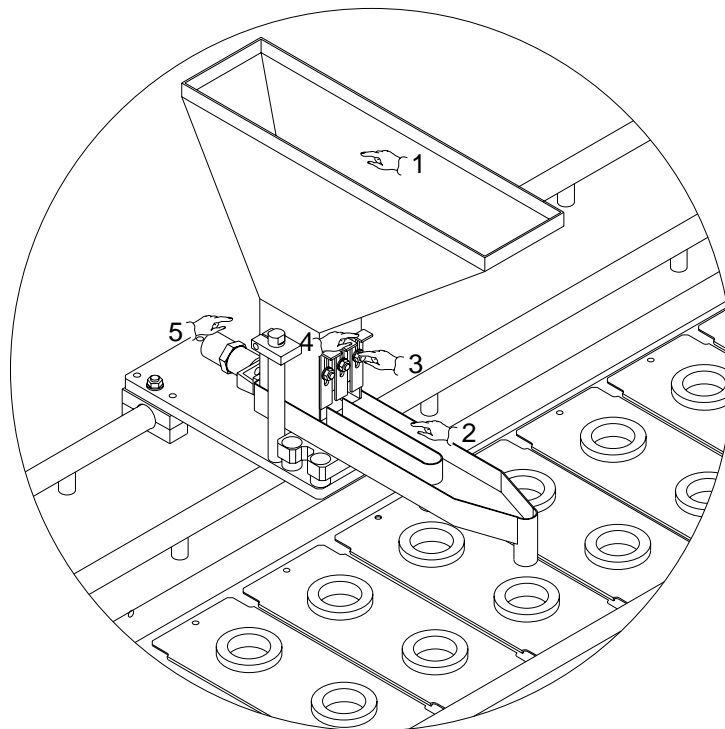

Fig. 6.20
This device, which is mounted on the structure, is used to spread nut granules, chocolate flakes or similar onto the product. The unit consists of a hopper (*Pos. 1, Fig. 6.20*) connected to distribution channels (*Pos. 2, Fig. 6.20*) along which the product flows due to the effect of the vibration induced by a vibrator.
- slacken screws (*Part. 3, Fig. 6.20*) using the wrench and move the adjustable baffles (*Part.*
4 Fig. 6.20), lifting them to increase granule feed or lowering them to reduce feed.
At the end of the adjustment, tighten screws (*Pos. 3, Fig. 6.20*) using the wrench; rotate the pressure regulator (*Part. 5 Fig. 6.20*) clockwise to increase the working pressure of the vibrator in proportion to the quantity of granules fed, or anticlockwise to reduce it.
If any component malfunctions, press the emergency stop buttons (*Part. 1/2, Fig. 6.20*) to disable all the machine's electrical functions.
Part. 1, Fig. 6.20) anticlockwise and release it, then press the reset button  button (*Fig. 6.20*) on the operator interface panel or press the button on the cord emergency stop switch (*Part. 2, Fig. 6.20*) and then press the reset button (*Fig. 6.20*).
- Press the end of production button  (*Fig. 6.20*). All the operating stations in memory will stop automatically.